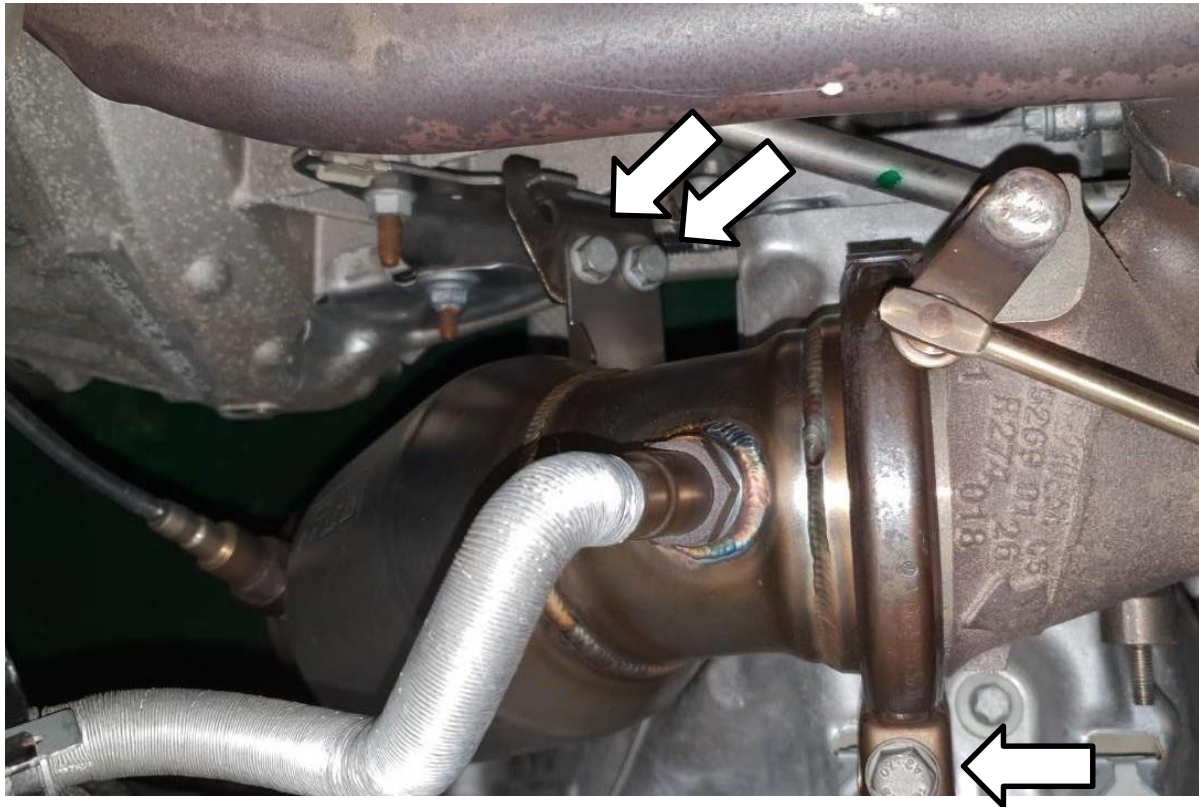

Fig. 11
2. Install the iPE front cat pipe, bushes, clamps and oxygen sensor plug install to positioning. (Fig.11)